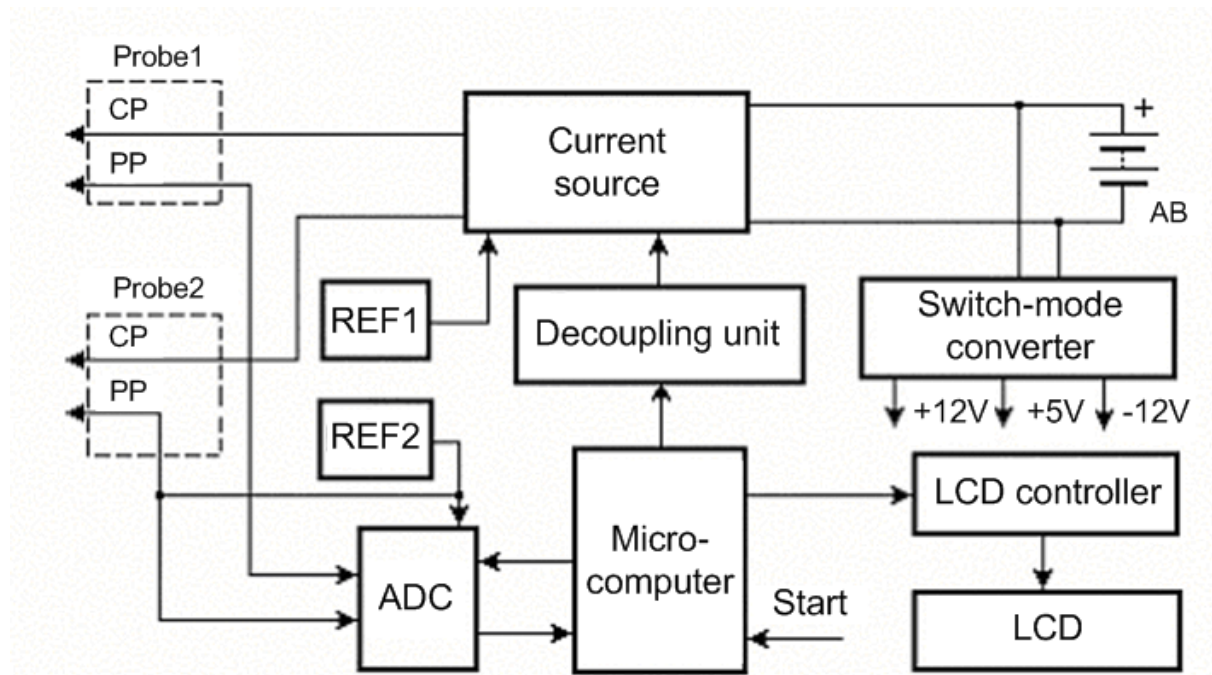

Fig.1
1.4.1. Fig. 1 shows the flow chart of the device.